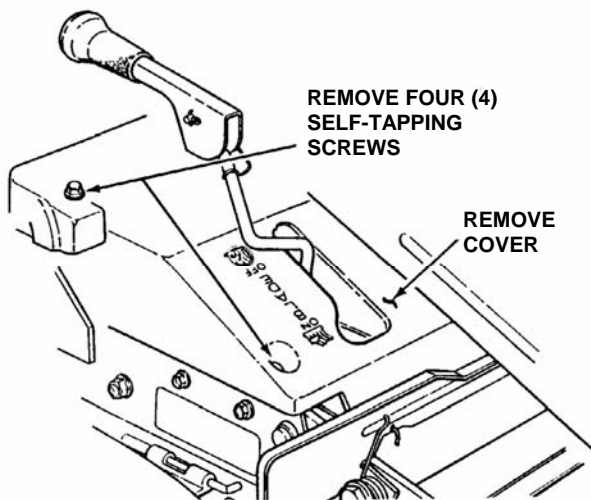

FIGURE 3.3
2. Remove four self-tapping screws, two on each side of mower drive belt cover. See Figure 3.3.